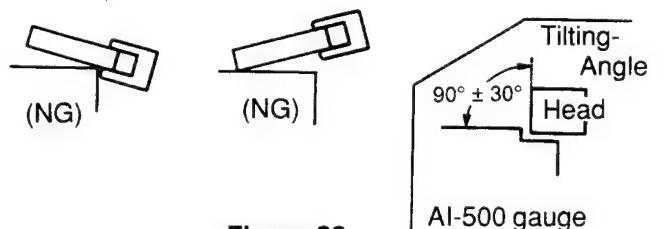

Figure 23
- (4) Adjust the height of the head as shown in Figures 23, 24 and 25.